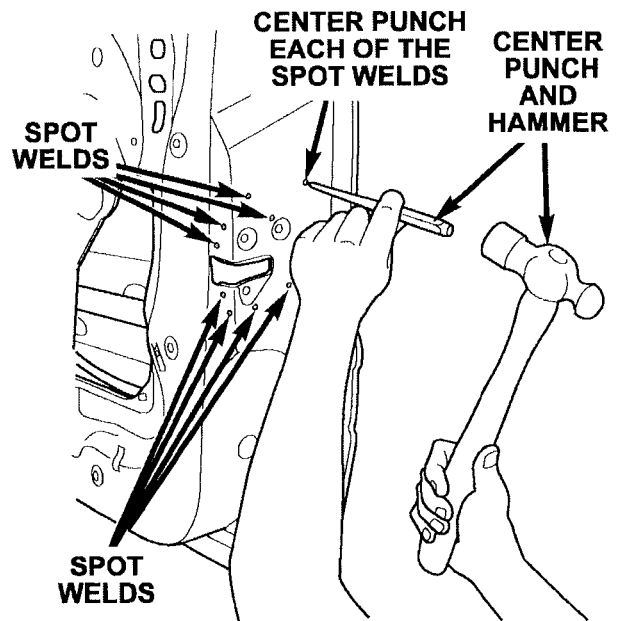

Figure 3
- 11. Using a center punch, carefully center punch each of the 10 spot welds that hold the door latch reinforcement plate to the door frame (Figure 3).